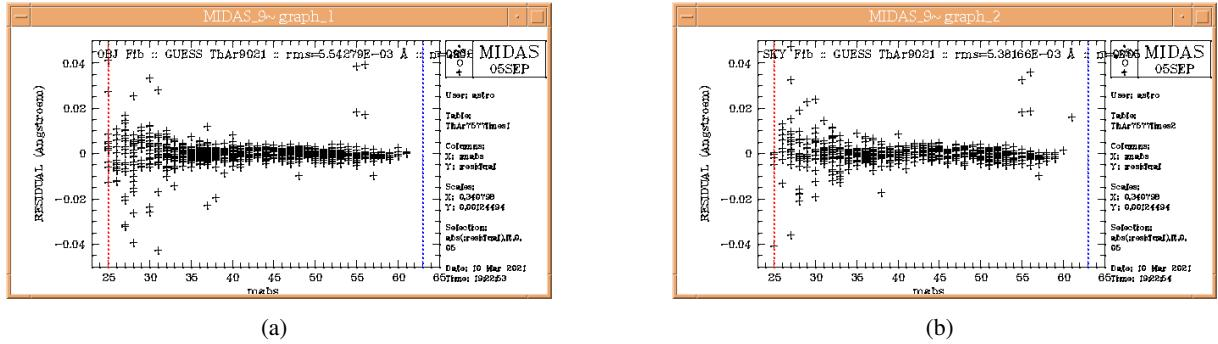

Figure 3.1: RMS of wavelength calibration in object- and sky fiber
- D1. Find a white graphics with title **OBJ FIB GUESS** (Figure. 3.1, p. 41).